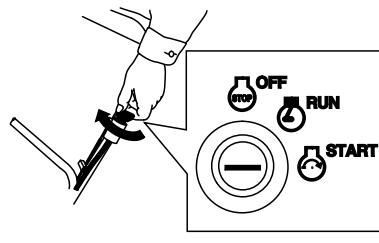

Figure 15
- Turn the ignition key to the Start position; when the engine starts, release the key (Figure 15).